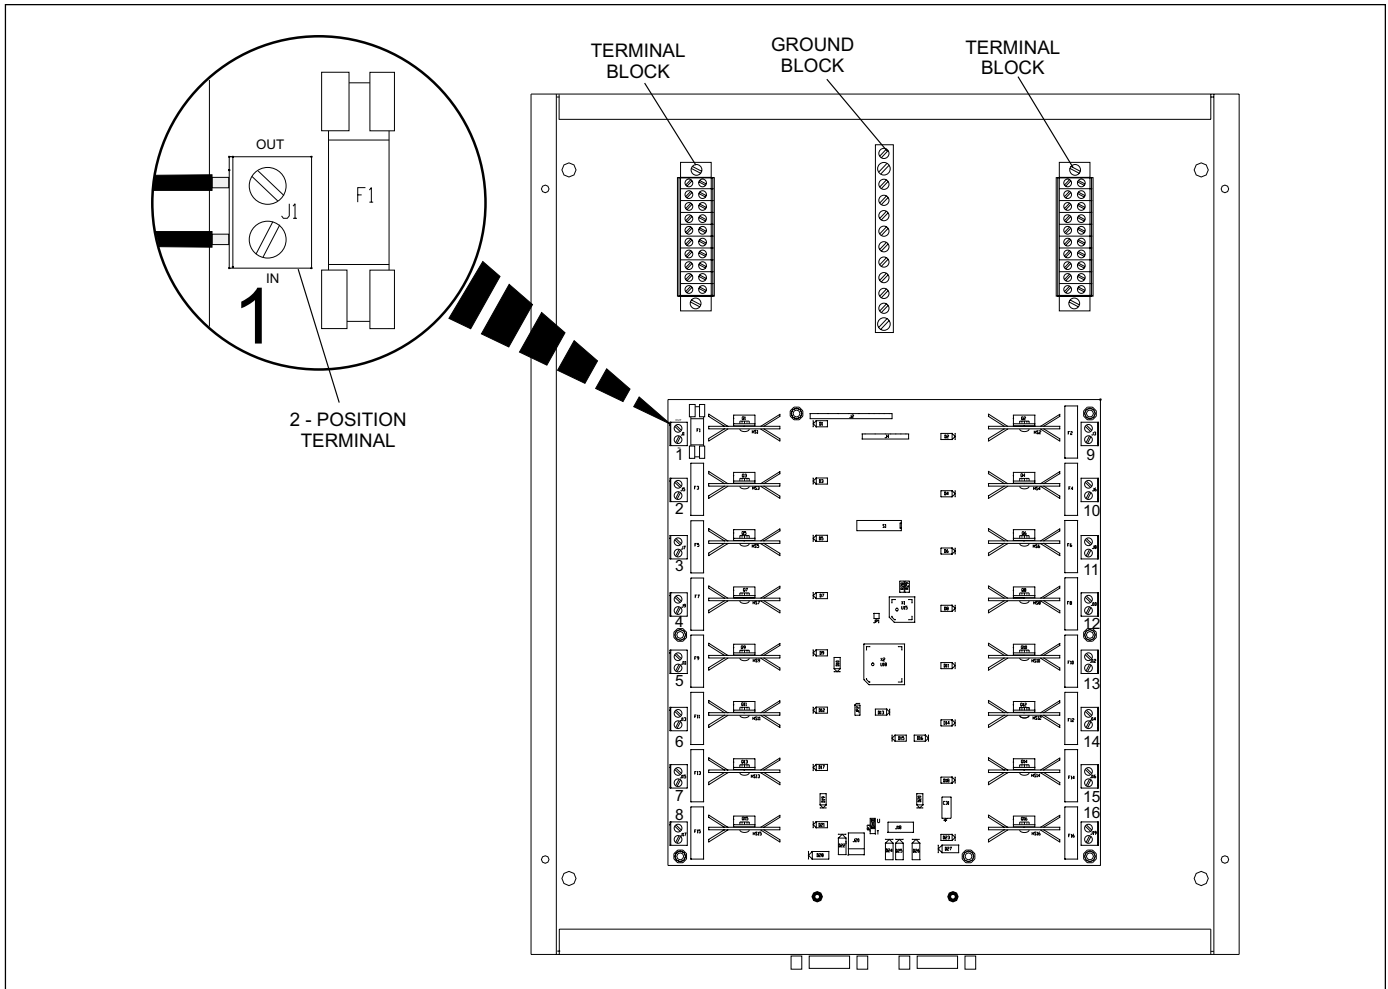

Figure 1. AC Power Controller
3. There are sixteen 2-position terminals on the AC Power Controller electronics PCB. From the terminal block connect the line wire to "IN" on the 2-position terminal, from "OUT" on the 2-position terminal, route the line wire to the billiard lights. Refer to *Figures 1 & 2*.
2. From the terminal block connect the line wire to "IN" on the 2-position terminal. From "OUT" on the 2-position terminal, route the line wire to the relay that controls the billiards light. Refer to *Figures 1 & 3*.
1. Route the line wire from the primary side of the switch, "S" circuit to the terminal block in the AC Power Controller. Refer to *Figures 1 & 4*.
2. From the terminal block connect the line wire to "IN" on the 2-position terminal, from "OUT" on the 2-position terminal, route the line wire to the secondary side of the switch "S". Refer to *Figures 1 & 4*.